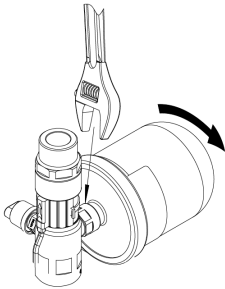

Fig. 1
- Rotate the pressure vessel as shown to unscrew (Figs. 1, 2 & 3).